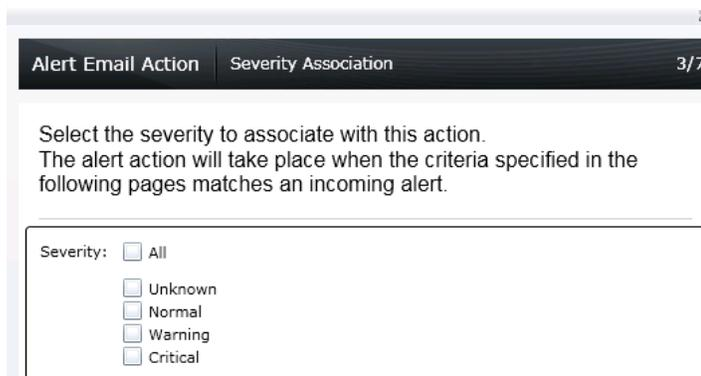

Figure 8 Severity Association
- To receive emails for the alerts that have critical severity, select **Critical** in the **Severity Association** window as shown in Figure 8.